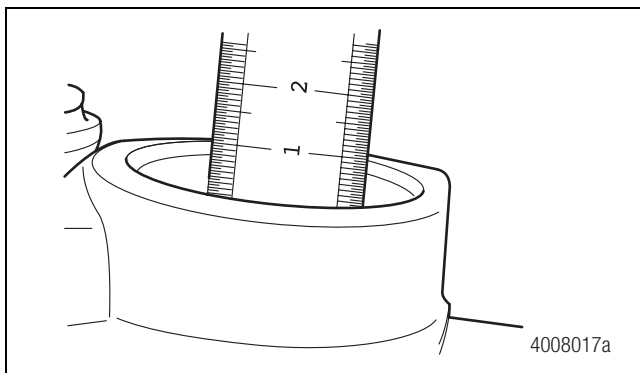
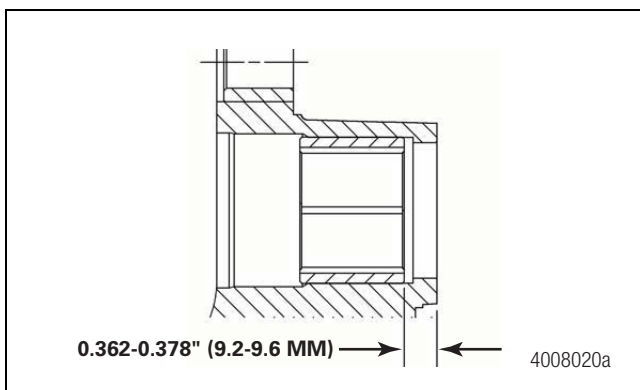

Figure 5.39
Figure 5.40
3. Use the applicable parts of Meritor tool MST 1000 to pull the bushing into the slide pin bore to a depth of 0.362-0.378-inch (9.2-9.6 mm) from the end of the slide pin boot retainer side of the bore. Figure 5.39 and Figure 5.40.